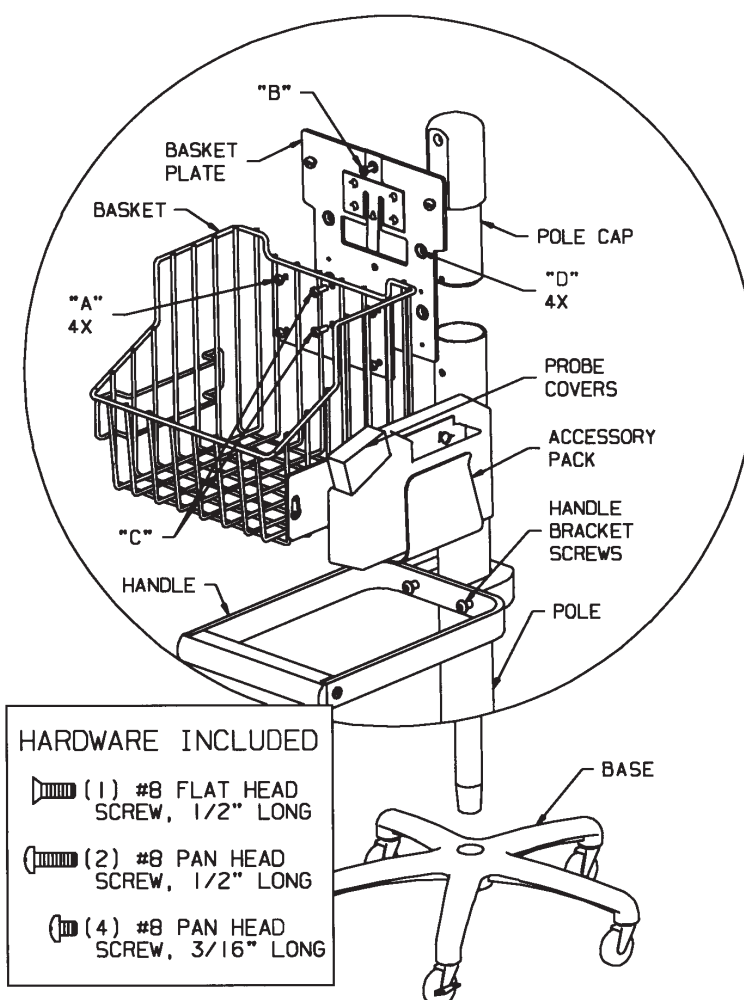

Figure 1
(Refer to figure 1 for the following instructions)
- 4) Assemble BASKET to BASKET PLATE by inserting (4) #8 X 3/16" long phillips screws through four holes designated "A". Securely tighten screws.
- 5) Assemble BASKET PLATE to POLE CAP using (1) #8 x 1/2" long phillips flat head screw inserted through top hole "B" in BASKET PLATE and into top threaded hole in POLE CAP. Do not securely tighten screw.
- 6) Align two "C" holes in BASKET with corresponding holes in POLE and insert (2) #8 x 1/2" long phillips screws. Securely tighten these screws and screw assembled in step 5.
- 8) *For Model #5200-60 only*, attach ACCESSORY PACK by orienting as shown in figure 1 and inserting onto side plate of BASKET and pushing up. This will lock ACCESSORY PACK onto BASKET.